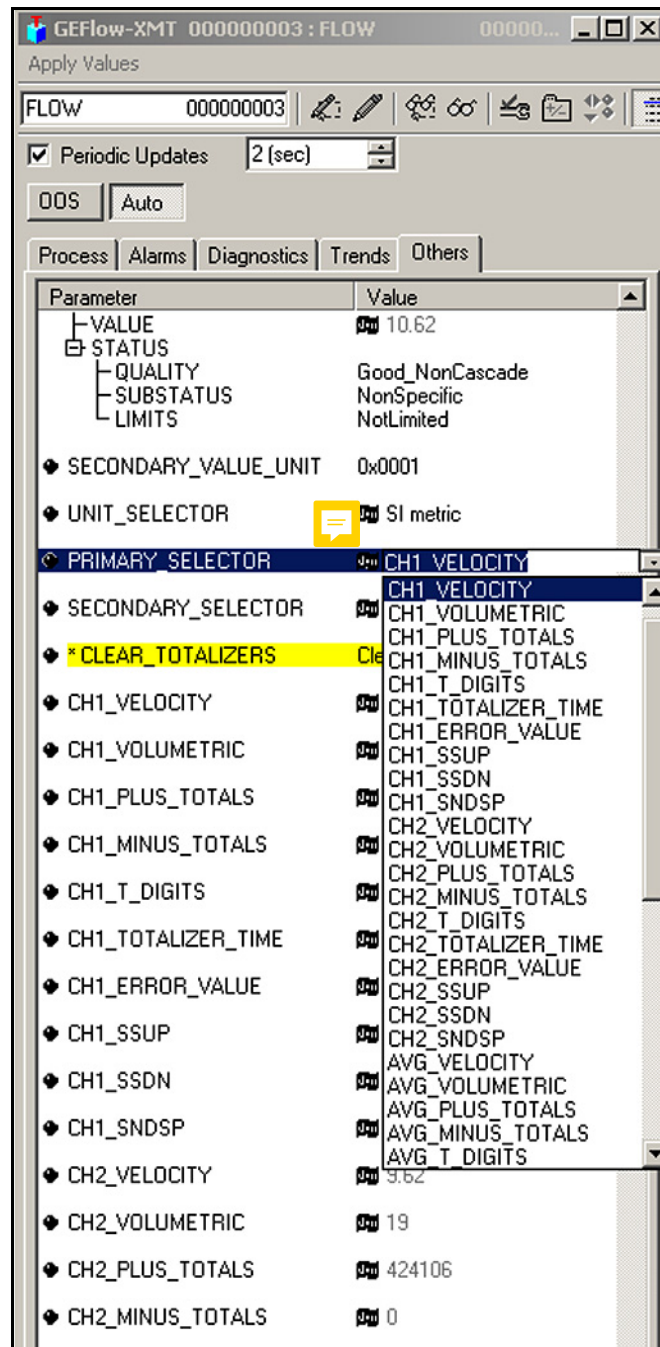

Figure 49: Primary Selector Drop Down List
2. Select the **Others** tab and open the drop down list for the PRIMARY_SELECTOR through 6th_SELECTOR (refer to Figure 49 on page 67).
3. Choose the unit from the list (see Figure 49 on page 67).